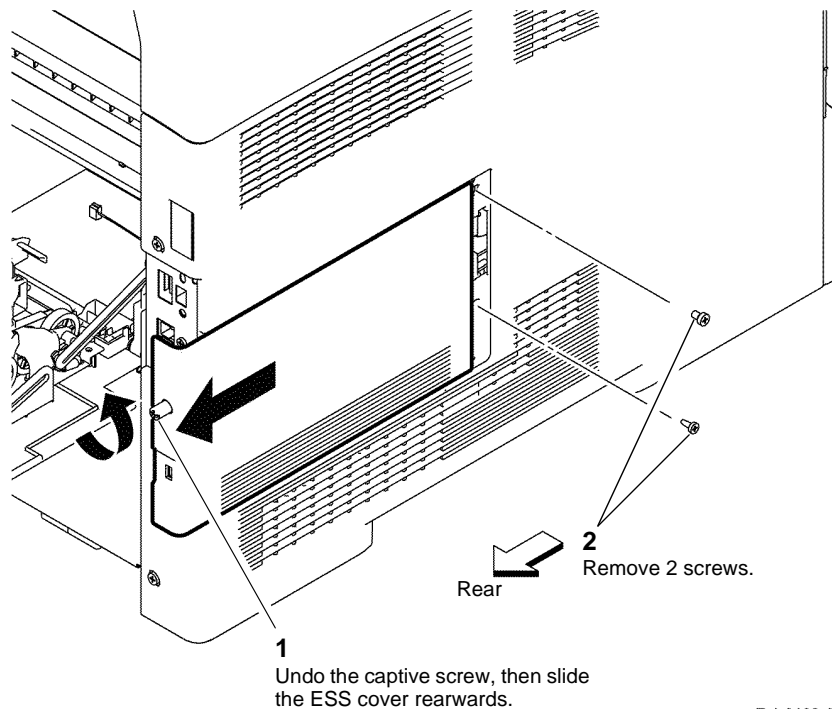

Figure 1 ESS cover C405
2. Prepare to remove the left side cover assembly, Figure 1.